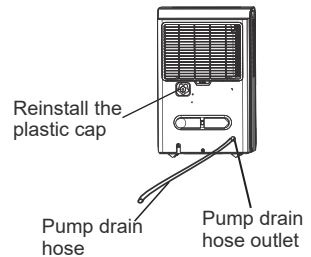

Fig. 11
- Remove the drain hose from the unit and install the plastic cap to the drain hose outlet of the unit by clockwise rotation. (See Fig. 11)
- Insert the pump drain hose into the pump drain hose outlet for at least 15 mm (See Fig. 11), then lead the water hose to the floor drain or a suitable drainage facility.